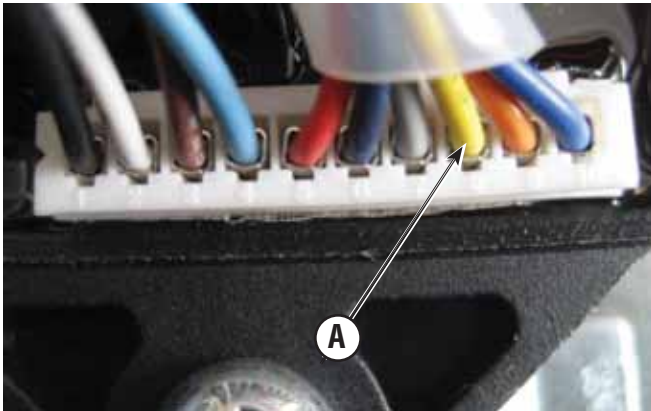

Figure 54
3. Measure the resistance between the trigger coil (**A**, Figure 54) and ground.